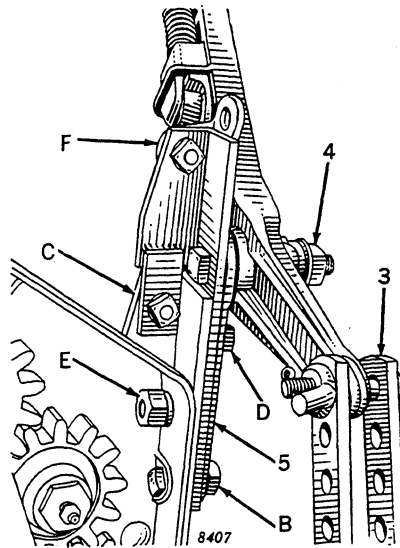

Figure 101
3. (Figure 101) Disconnect tilting strap from tilting lever.
4. (Figure 101) Remove bolt holding elevator squaring brace to tilting lever sector. Loosen elevator squaring brace at seat pipe.
12. Replace tilting strap at "3," Figure 101.